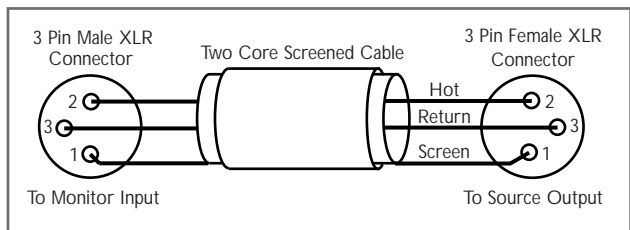

Fig. 4 Balanced Cable
**Figs 4 and 5** illustrate the signal cable connections required for each option. Balanced (XLR to XLR) connection offers lower noise and better immunity to hum pick-up. Unbalanced (XLR to Phono or Two pole Jack) connection carries risk of hum caused by multiple signal earths. Hum problems resulting from unbalanced connection may be reduced by making ONE of the following modifications to the signal cable connections: If the driving preamplifier (or desk) is double insulated (i.e. has no mains earth), disconnect the signal cable screen at the RCA Phono plug end. Alternatively, disconnect the signal cable screen at the XLR end. This second option will make the source the reference signal earth.